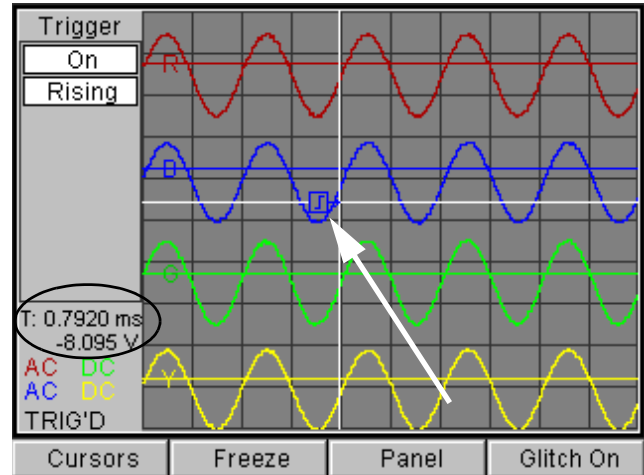

Figure 7.30: Lab Scope Screen, DMM Off - Trigger Setup
- 8 Press the **Down Direction** key to select the marker in the graph. This displays trigger time and amplitude settings at the bottom left of the field and places two lines (cursors) on the screen for setting the trigger time and level, as shown in Figure 7.30.